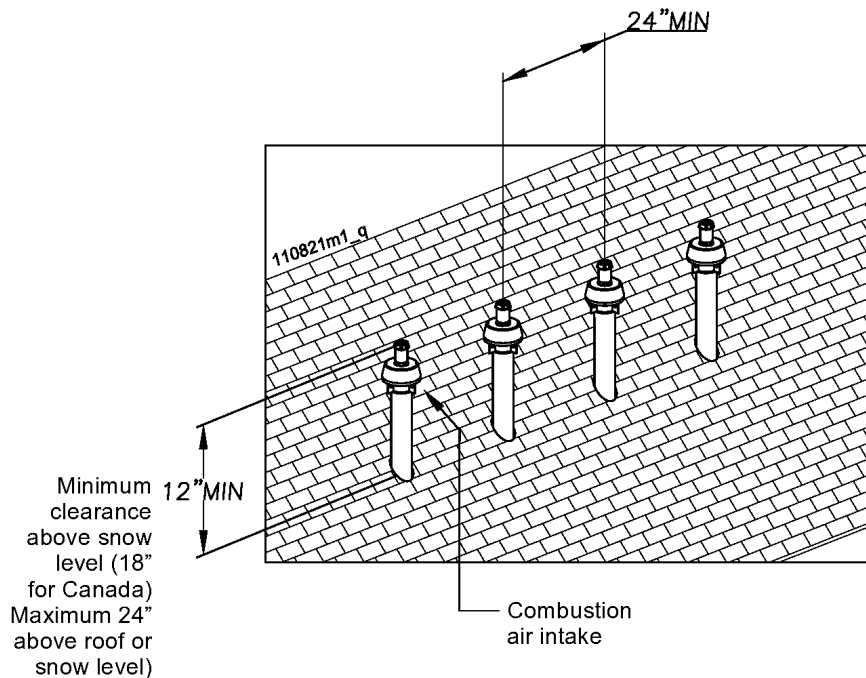

Figure 10-30 Concentric multiple boilers vertical terminations
When two (2) or more direct vent appliances are vented near each other, each appliance must be individually vented (see Figure 10-30).
When two or more direct vent appliances are vented near each other, two vent terminations may be installed as shown in Figure 10-30. It is important that vent terminations be made as shown to avoid recirculation of flue gases.